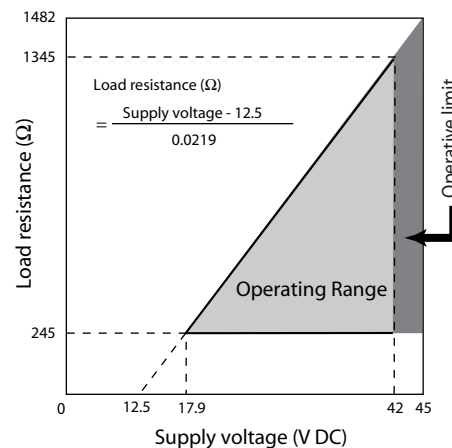

Figure 5 Supply voltage vs. load resistance characteristics
17.9 to 42V DC. Reverse polarity protection is standard. A load resistance of 250 Ω or more is necessary between loops. See Figure 5.